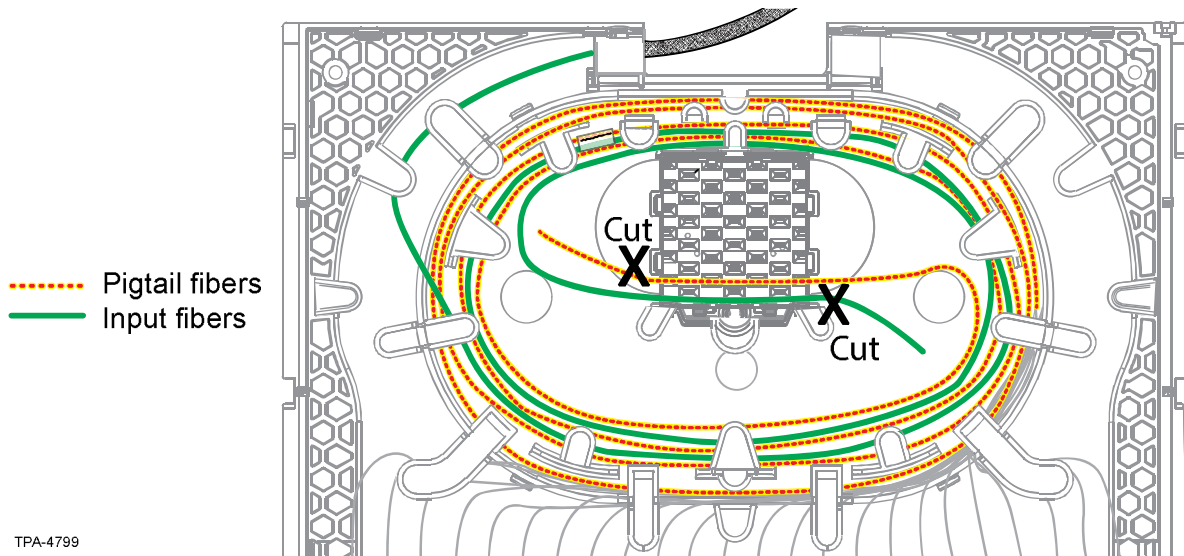

Figure 24
- Step 11: Bring input fibers into the splice organizer on one side of the organizer (Figure 24).
- Step 14: Cut the ribbons/fibers at the outer edge of the splice organizer (Figure 24).